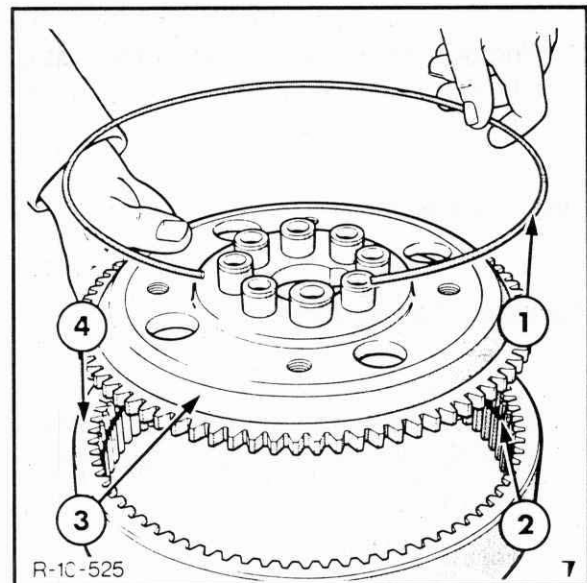

Figure 7-79
4. Remove the carrier to ring gear retaining ring and separate the two components, Figure 7-79. Carefully inspect the ring gear teeth for wear.